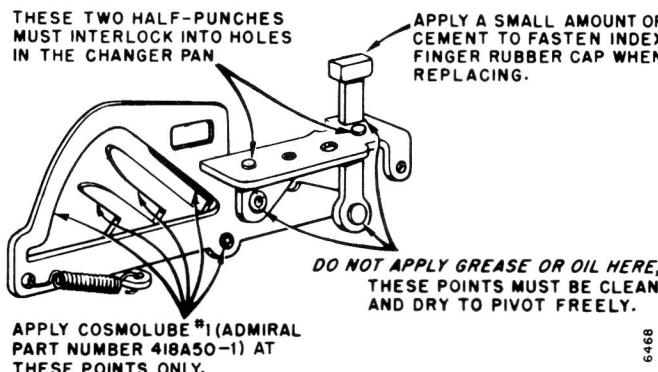

Figure 8. Set-Down Index Assembly.
Before lubricating the set-down index (74), refer to figure 8. Grease or oil must not exist at certain points on the set-down index.
Although the set-down index (74) is factory assembled and requires no adjustment, some care is required when it is being replaced. The top surface of the set-down index bracket mounts to the changer pan and is positioned by two $\frac{1}{8}$ inch diameter half-punches which interlock in holes in the changer pan. A #6-32 machine screw secures the set-down index in place. See figure 8.
2. Check for binding in set-down index assembly (74).
3. Check that the set-down index bracket properly interlocks with changer pan. See figure 8.